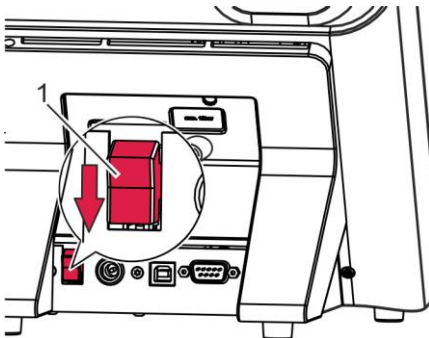

Fig. 26: Switching off the Proofmaster
3. Switch off the Proofmaster with the [I/O] switch (Fig. 26/1) in the direction of the arrow (Fig. 26).